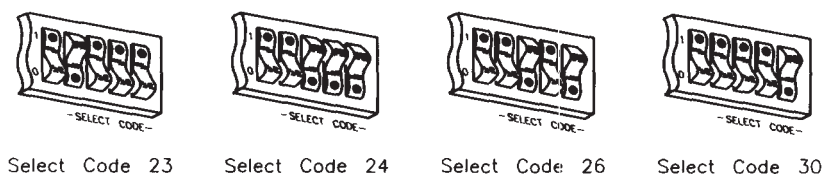

Figure 5-35.
- b. Set the Select Code switches to one of the four select codes given in Figure 5-35, unless you have used them elsewhere.